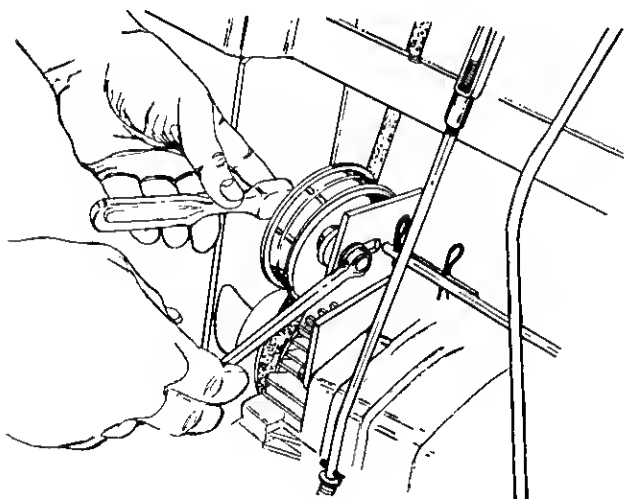

FIGURE 27.
4. Remove the idler pulley at hydrostatic pump by removing 3/8" hex bolt, hex nut, belleville washer and flat washer. See figure 27.